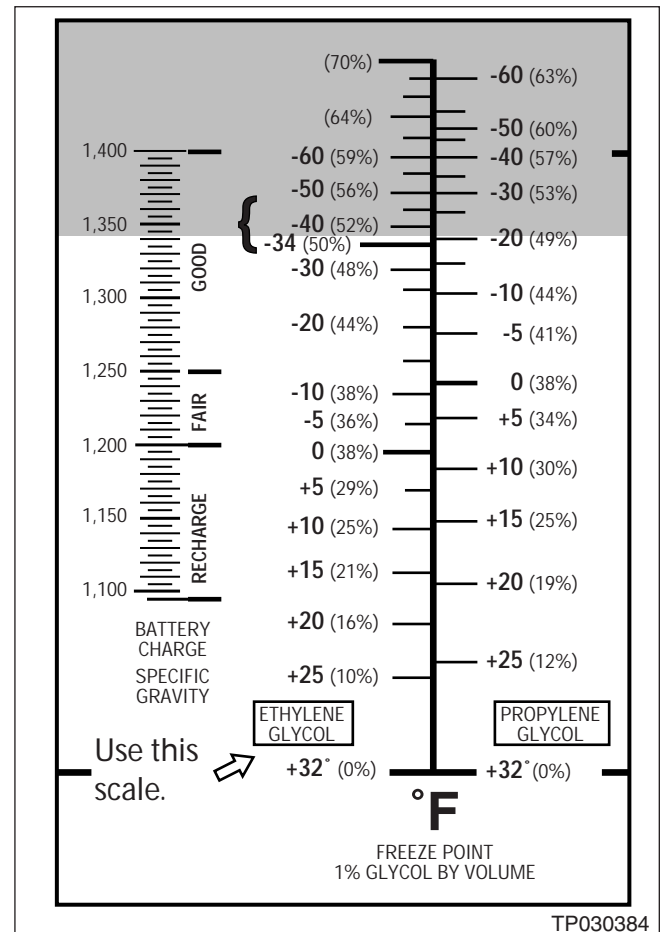

Figure 1
- The refractometer has the percentage of ethylene glycol written on the scale (see Figure 1).